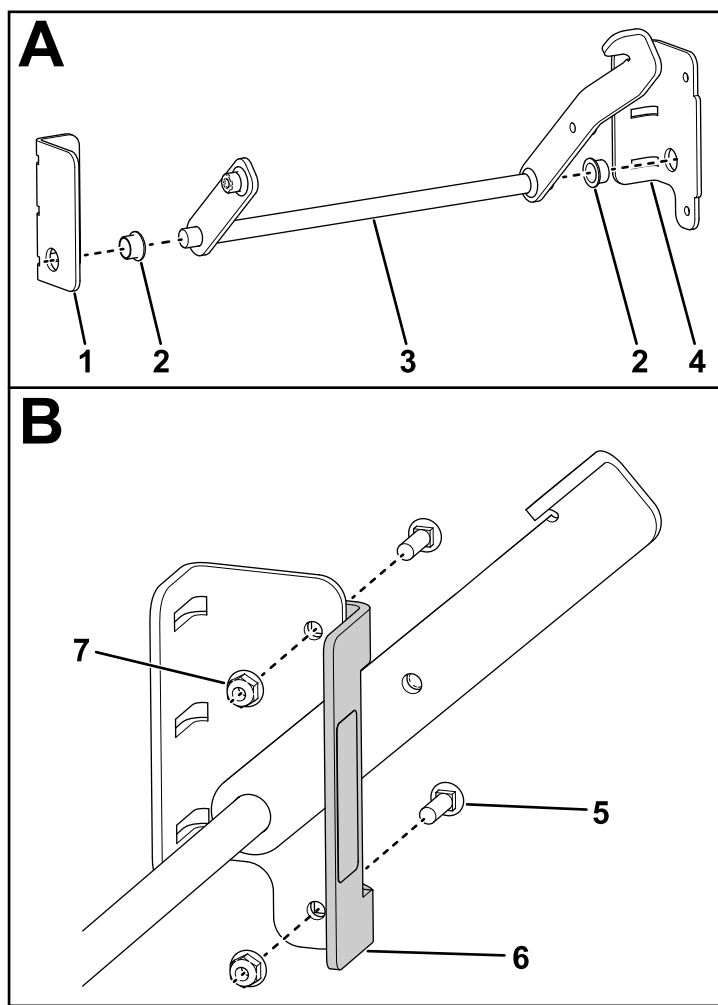

Figure 9
3. Attach the parking-brake lever assembly to the rear brackets using 2 bushings (A in Figure 9).
4. Attach the brake stop to the right rear bracket using 2 carriage bolts (5/16 x 1 inch) and 2 locknuts (5/16 inch) (B in Figure 9).